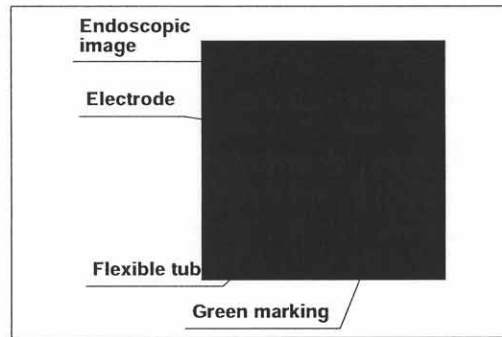

Figure 4.4
- S Always confirm that the electrode section of the Electrosurgical Accessory is at an appropriate distance from the Distal End of the endoscope. Confirm that the green marking at the distal tip of the Electrosurgical Accessory can be observed on the endoscopic image (See Figure 4.4). If the electrode is used when too close to the Distal End of endoscope, the endoscope and/or ancillary equipment may be damaged. Using an damaged endoscope may cause patient injury.